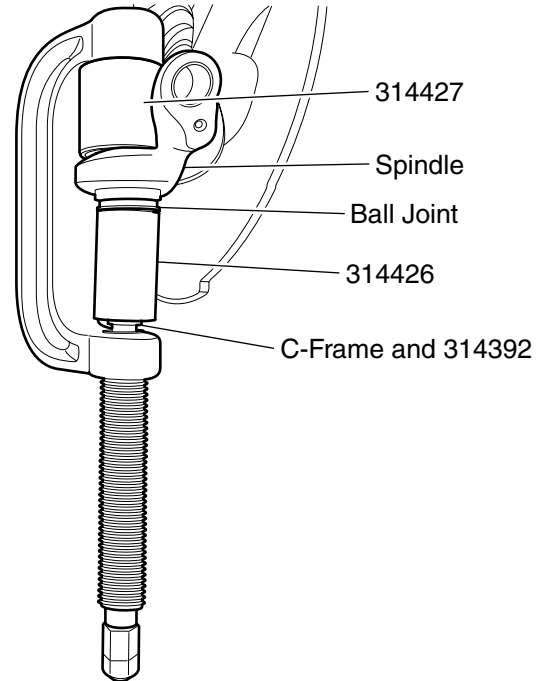

Figure 2. Ball Joint Removal
4. Position C-Frame and 314392. See Figure 2.